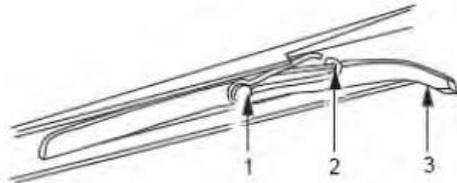

Figure 28. Ejector, Clip, and Pin.
1. Check for chipped, distorted or rounded tip on ejector (Figure 28, Item 3), bent, broken, or missing ejector clip (Figure 28, Item 2) or damaged or missing ejector pin (Figure 28, Item 1).